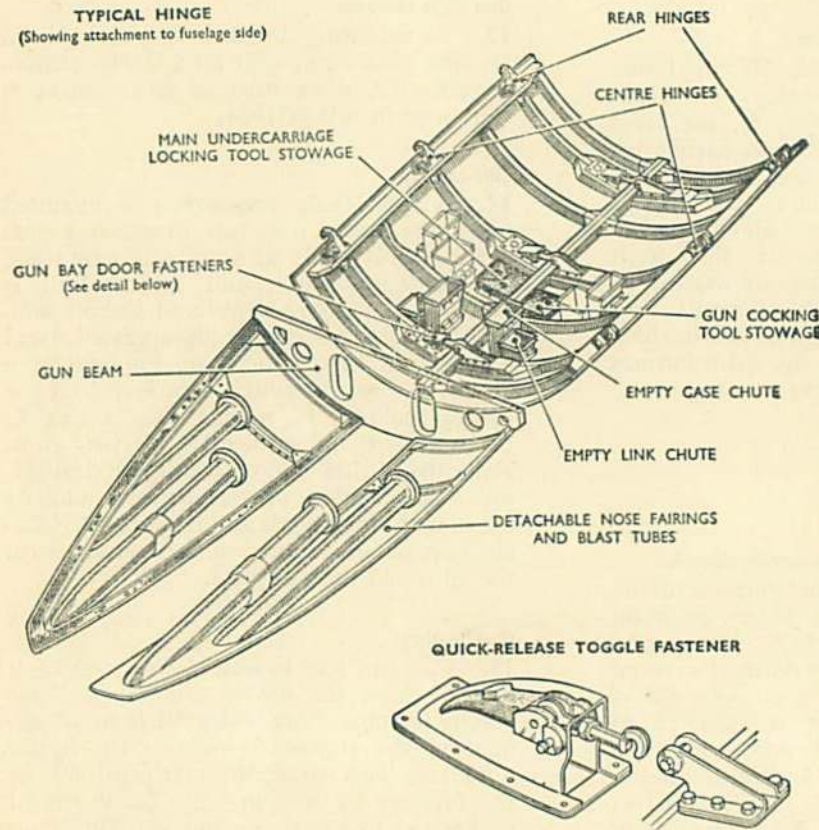

Fig. 3. Gun bay doors and nose fairing
7. The empty case ejection chutes in the gun bay doors (fig. 3), are aligned with the ejector
9. The guns are cocked with a No. 11 hand-cocking unit and details of its application will be found in A.P.(N)1025. A canvas bag on the inside of the gun bay door (fig. 3), is provided for stowing the unit.
Access to guns (fig. 3)